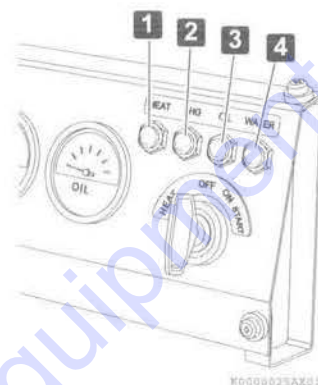

Figure 7
Figure 7 shows a typical indicator arrangement on the operator's console. With the specification of standard glow (preheat), as you turn the key switch to the HEAT position, the HEAT indicator is turned on for 4 seconds, showing that the glow plugs are energized. When the indicator goes off, turn the key switch to START position and start the engine. In the case of 3TNV88F (DI), the indicator goes off after 15 seconds.